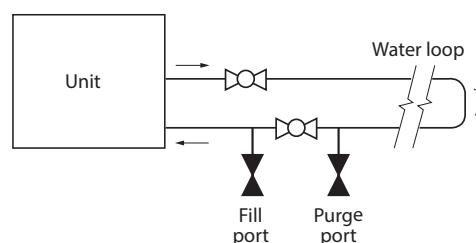

Figure 3
- Hold down the UC8 controller's push button 'SW3' (see Fig.3) until the display shows the letter 'H', then release the button.